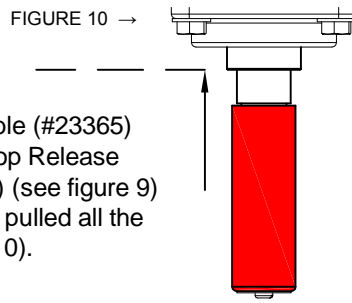

FIGURE 10
6. Pull the Rotation Stop Release Cable (#23365) downward away from the Rotation Stop Release Adjustable Conduit Retainer (#23364) (see figure 9) until the Red Handle Grip (#23337) is pulled all the way up to its top position (see figure 10).